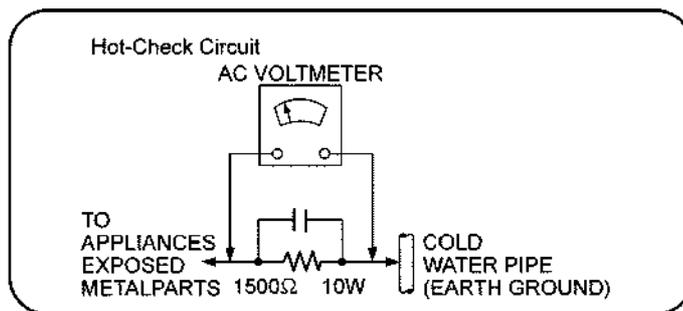

Figure. 1-1
- Connect a $1.5k\Omega$, 10 watts resistor, in parallel with a $0.15\mu F$ capacitors, between each exposed metallic part on the set and a good earth ground such as a water pipe, as shown in Figure 1-1.